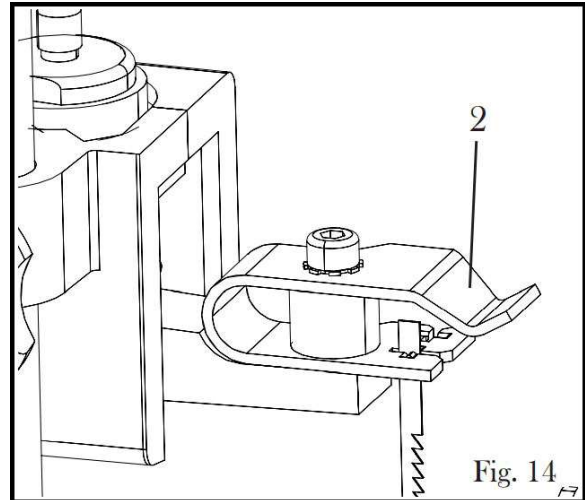

Figure 14
3. To release and remove the blade from the blade holder push down on the upper blade holder (2) then remove the blade from the lower blade holder (3). See figure 14 and 15.
5. While pushing down on the upper blade holder carefully with out bending the blade insert into the slot of the holder. See figure 14.